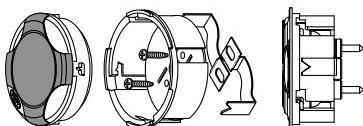

**Figure 1**
- For the best integration between the midrange and tweeter, the tweeter should be placed less than 2" from the midrange (Figure 1).
- Whenever possible, place the tweeter directly above or below the midrange as this maximizes the imaging (point source) capability of the speakers (Figure 1).